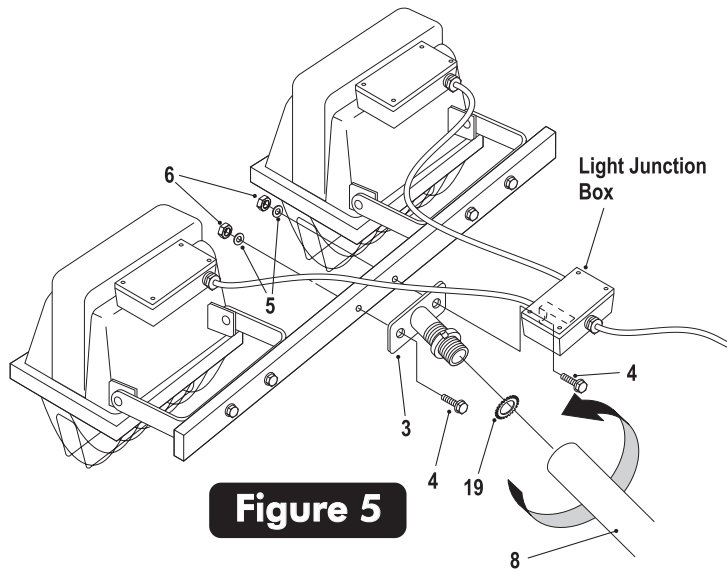

Figure 5
- Install a Serrethead Washer (#19) onto Lamp Base (#3) and screw the threaded portion of the Lamp Base (#3) into the threaded end of Pole Section "A" (#8). Secure Lamp Base by tightening jam nut on Lamp Base (#3) against end of Pole Section "A" (#8). See Figure 5.
- Attach Lamp Base (#3) and Light Junction Box to Lamp Mount Bar (#2) using two Washer Head Bolts (#4), two washers (#5) and two locknuts (#6). See Figure 5.